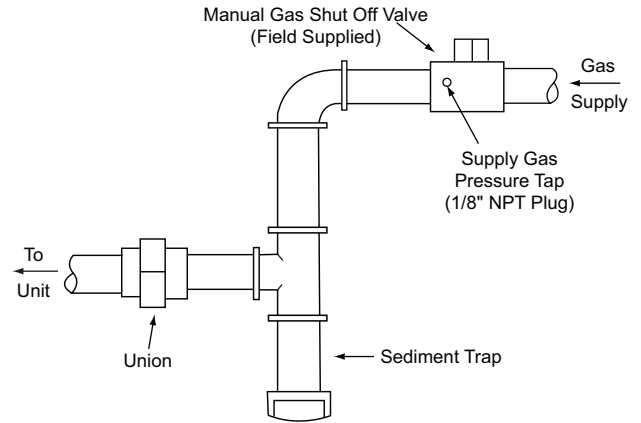

Fig. 9 — Field Gas Piping
2. Connect a pressure gauge to the supply gas pressure tap, located on the field-supplied manual gas shut off valve (see Fig. 9).